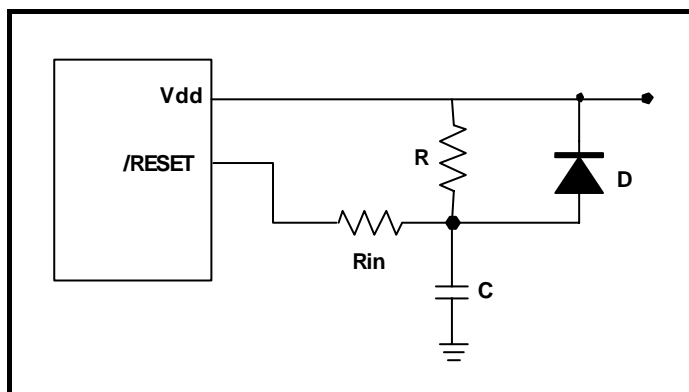

Figure 6-47 External Power-up Reset Circuit
The circuit shown in Figure 6-47 uses an external RC to produce a reset pulse. The pulse width (time constant) should be kept long enough for Vdd to reach minimum operation voltage. This circuit is used when the power supply has a slow rise time. Since the current leakage from the /RESET pin is $\pm 5 \mu\text{A}$, it is recommended that R should not be greater than 40 K Ω . In this way, the /RESET pin voltage is held below 0.2V. The diode (D) functions as a short circuit at the moment of power down.